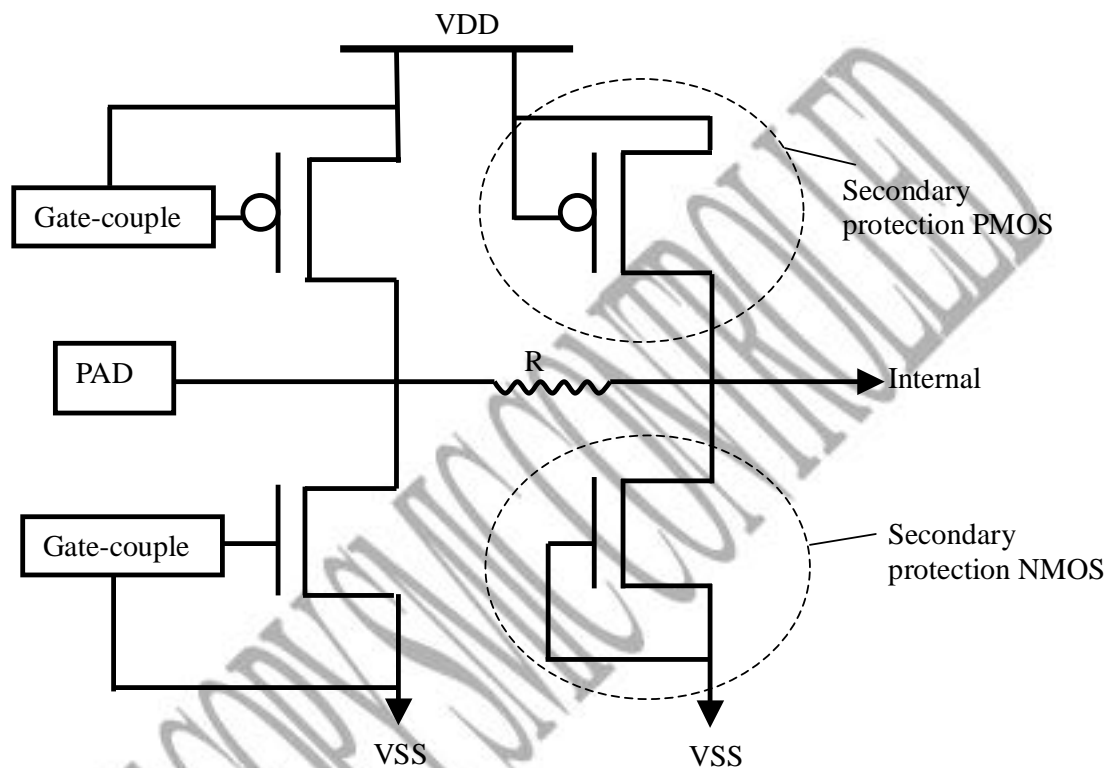

**Fig.1 ESD Cell Layout Example**
- 10 ESD protection devices should be surrounded by pick-up ring with appropriate bias. (Fig. 1)
- 20 Minimum total width of metal lines to connect bonding pad and ESD protecting devices. W1=20 (Fig. 1)
- 21 Minimum metal width on drain side of ESD devices. W2=4.5 (Fig.1)
- 25 AA area of edge side of ESD devices or I/O buffers should be Source or Bulk rather than Drain (Fig. 1), to avoid the unwanted parasitic bipolar effect or abnormal discharge path in ESD zapping.